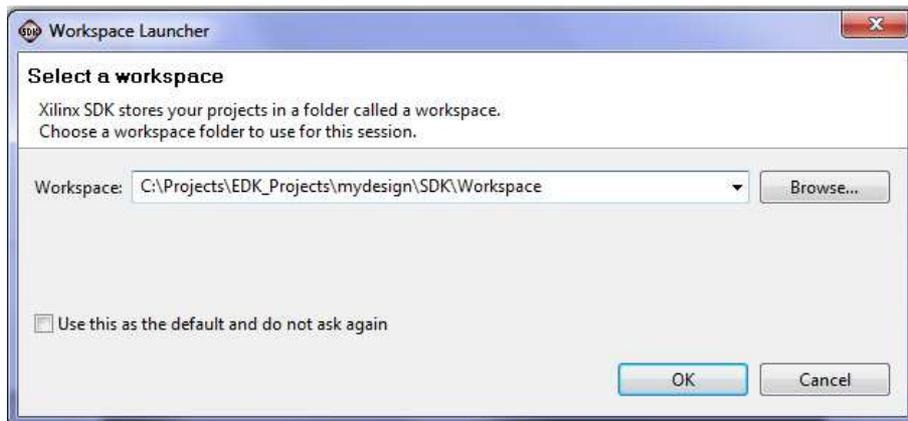

Figure 17. Workspace Launcher (Step 2)
**Step 2:** When the SDK starts the work space launcher window shown in **Figure 17**. The workspace as a software environment which is used to collect several projects in one entity. As the SDK is based on eclipse platform, those who are familiar with eclipse will find it easy to deal with the SDK. Change the workspace path as shown in Figure 17.